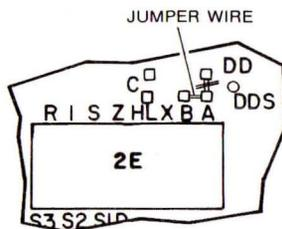

FIGURE 3-12. JUMPER PLUG SHUNT
2. Cut the trace at DD and jumper wire DDS. See Figure 3-12.